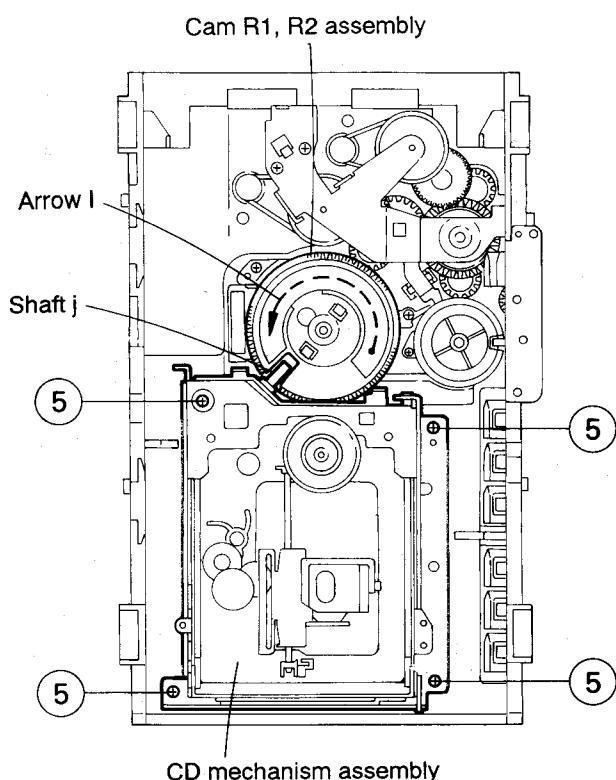

Fig. 5-39
### ■ Removing the CD mechanism assembly (See Fig. 5-39)
1. While turning the cams R1 and R2 assembly in the arrow direction (I), align the shaft (J) of the CD mechanism assembly to the position shown in Fig. 5-39.
2. Remove the four screws (5) retaining the CD mechanism assembly (See Fig. 5-39).